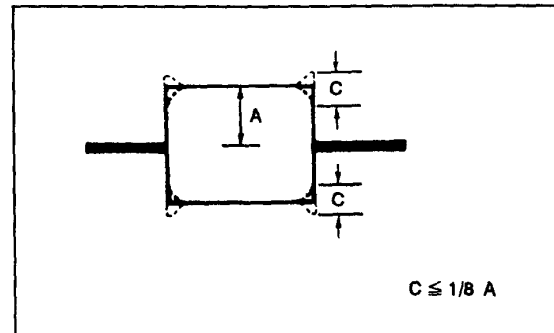

Fig. 4-14.
- 3) Confirm that no large fluctuations occur on the waveform (See Fig. 4-14).